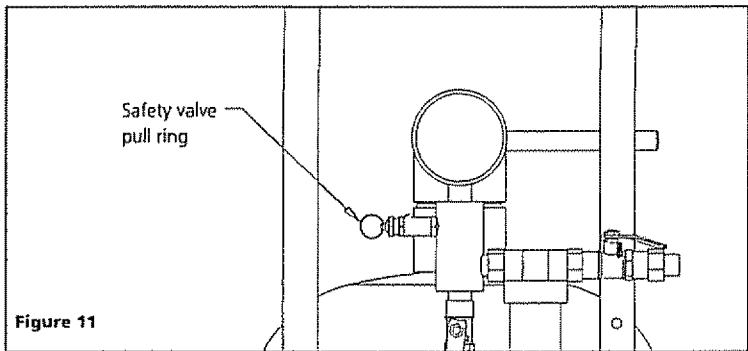

Figure 11
9. Check the Safety valve by pulling the ring on the safety valve (see Figure 11). A high flow of air will be released from the valve and continually flow out. Look at the pressure gauge on the tank; the air pressure should decrease. If the air enters the tank faster than the air leaving the safety valve, the safety valve is blocked and needs to be replaced Replace the safety valve with an exact replacement